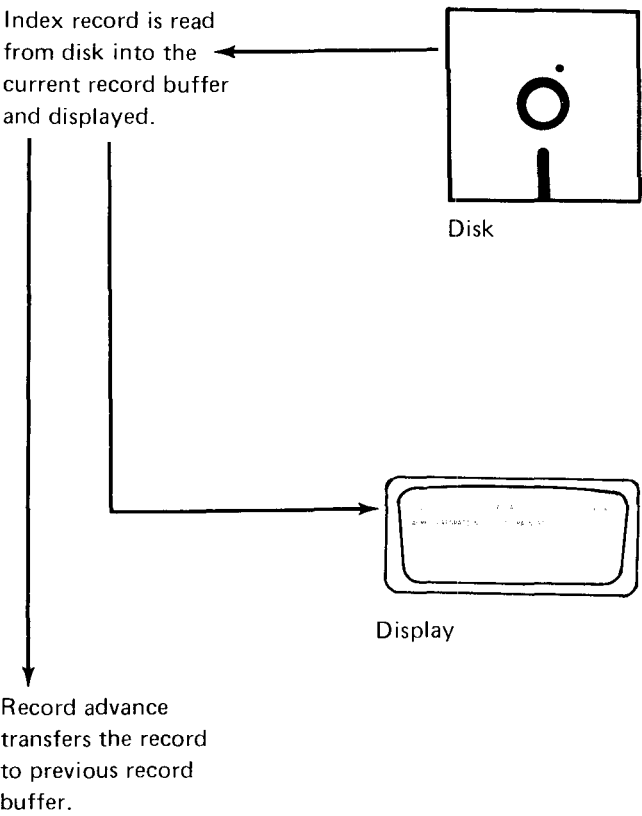

Figure 6. Data Flow for Read Index Mode
The 3742 is in read index mode whenever it is on the index track. The read index mode allows records on the index track representing the volume label, the data set labels, and other system data to be displayed on the display screen. These records can also be modified or deleted by a special procedure called modify index. See *Modify Index Mode (M)* in this section for further information. Figure 6 shows the data flow for read index mode.